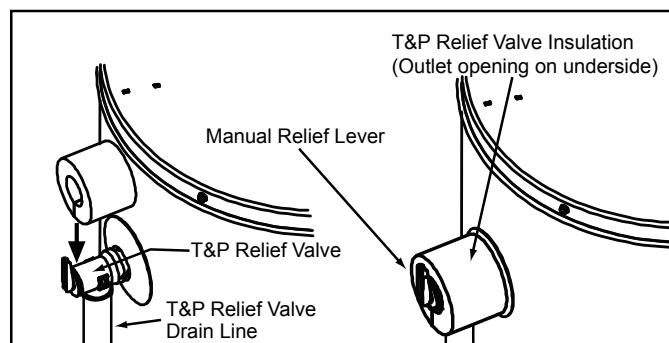

Figure 25.
Locate the temperature and pressure relief valve on the water heater (also known as a T&P relief valve). See Figure 25.
2. Spread the slit open and fit the insulation over the T&P relief valve. See Figure 25. Apply gentle pressure to the insulation to ensure that it is fully seated on the T&P Relief Valve. Once seated, secure the insulation with duct tape, electrical tape, or equivalent. **Important:** The insulation and tape must not block the discharge opening or hinder access to the manual relief lever (Figure 25). Ensure a discharge pipe is installed into the T&P valve discharge opening per the instructions in this manual.